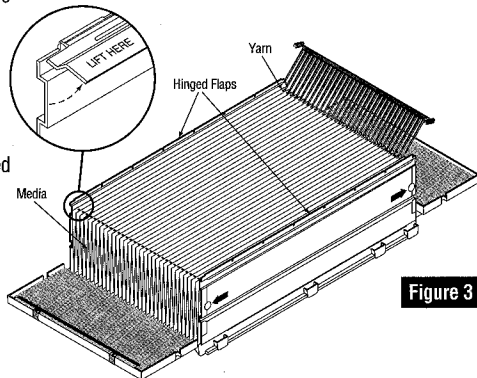

Figure 3
Step 6: Open both hinged flaps by lifting along entire edge labeled "Lift here" (see Figure 3).
Step 11: With the media pleats evenly spaced, rest the first pleat spacer on the yarn at either end, then carefully insert one pleat spacer finger into each pleat (see Figure 3).